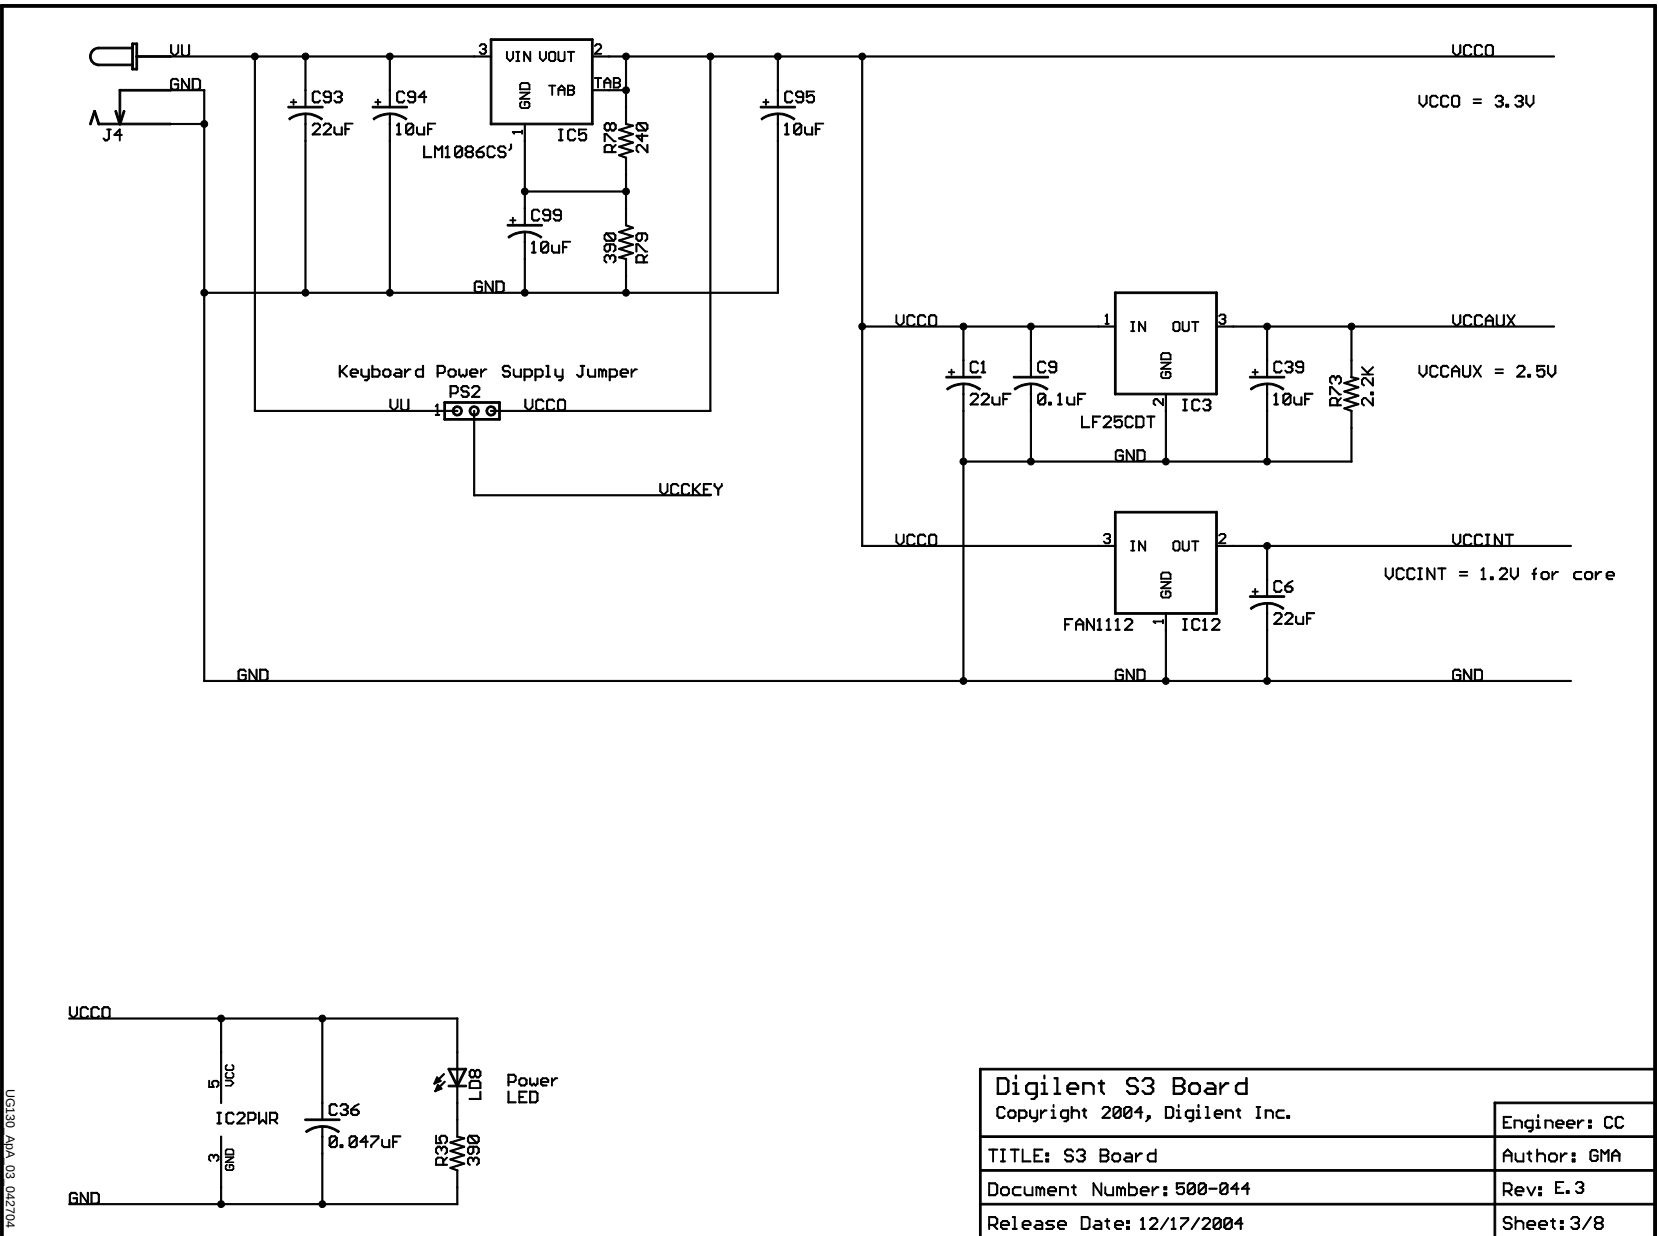

Figure A-3: Voltage Regulators, JP2 Jumper Setting for PS/2 Port Voltage
- Figure A-3, “Voltage Regulators, JP2 Jumper Setting for PS/2 Port Voltage”